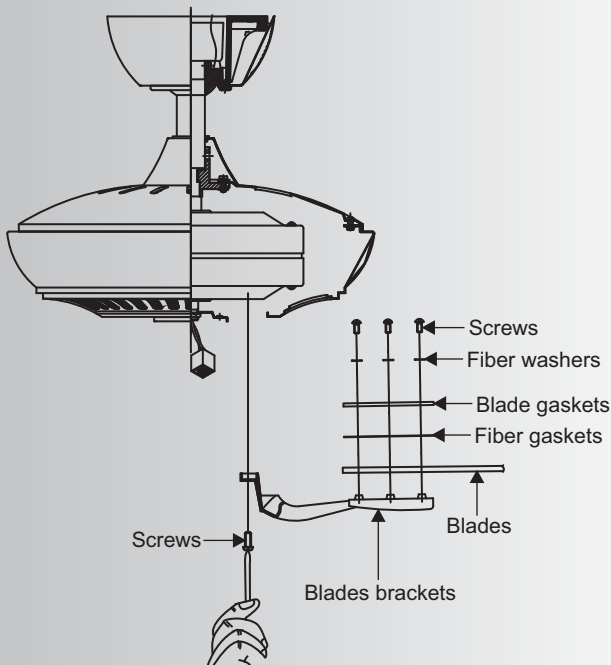

Fig. 14
**Step 1.** Attach blades to blade arm using the screws with rubber washers, blade gaskets and fiber gaskets provided. (Fig. 14)
**Step 2.** Attach each blade assembly to the motor using the "Pre-Installed" mounting screws in the blade bracket. (Fig 14)